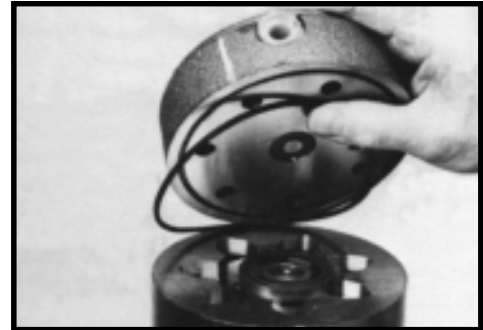

Figure 7
- 4. Remove end cover assembly (2) and seal ring (4). Discard seal ring. SEE FIGURE 7.